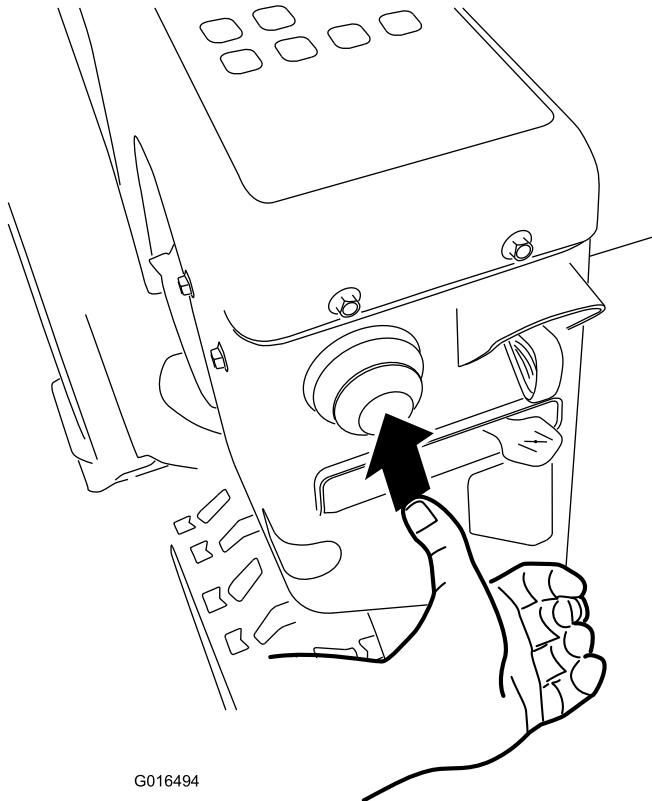

Figure 28
4. Firmly push in the primer with your thumb as indicated by the chart below, holding the primer in for a second before releasing it each time (Figure 28).